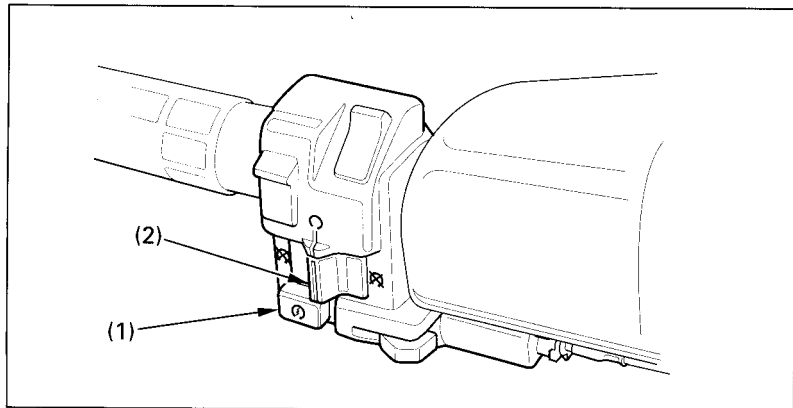

Fig. 2-8 (1) Starter button
The starter button (Fig. 2-8) is below the engine stop switch. To start the engine, press the starter button (1), with the transmission in neutral, the ignition switch I (ON) and the engine stop switch at O (RUN).